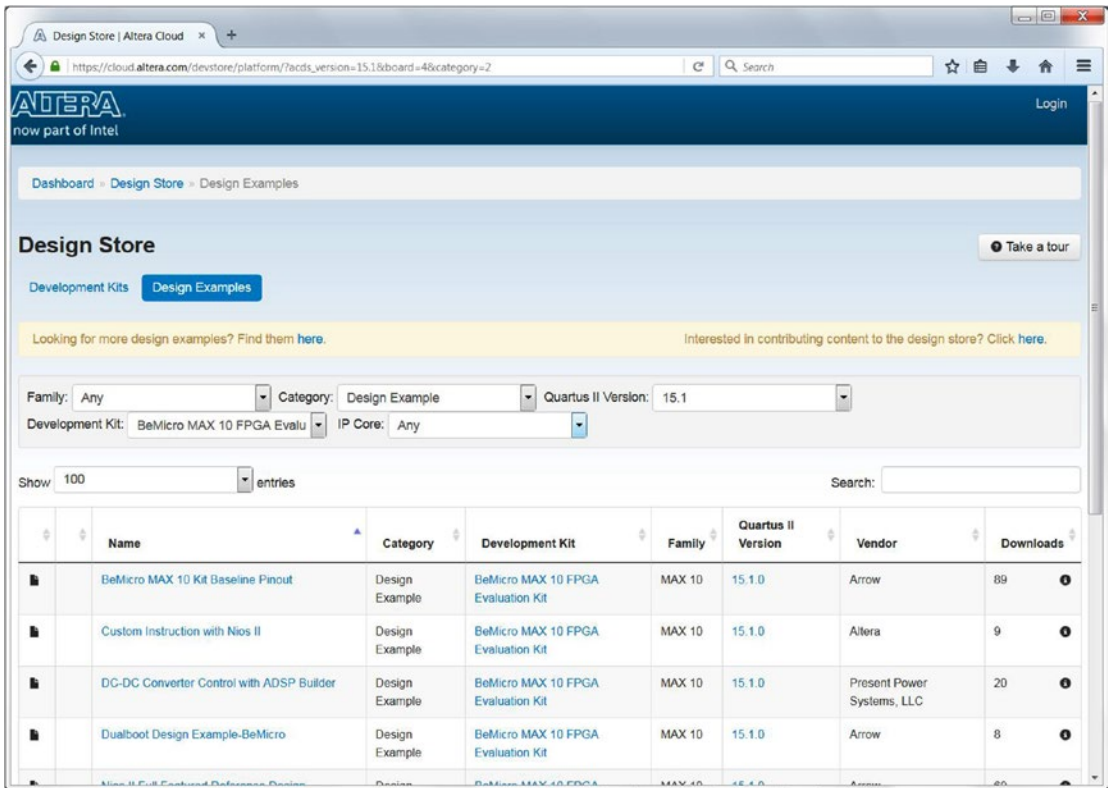

Figure 4-9. Altera Design Store—Category: Design Example: BeMicro MAX10 Kit Baseline Pinout
10. Select the Category shown in the design examples page. It will look like Figure 4-9. Look for the name: **BeMicro MAX 10 Kit Baseline Pinout** and then click the name to bring you to our final destination.